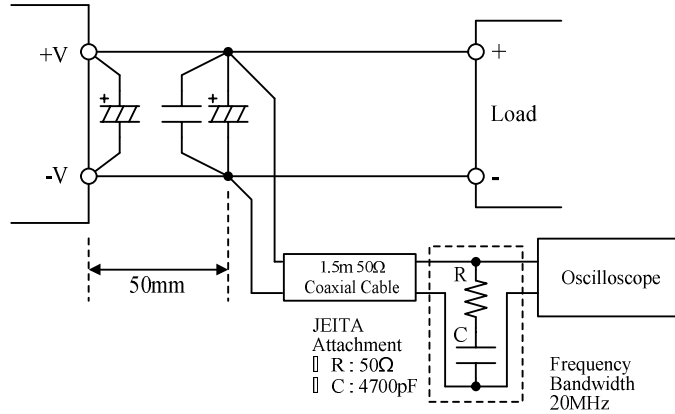

Fig.6-9 Output Noise or Ripple (including Spike Noise) Measurement Method
The output noise measurement connection can be found in the basic connection diagram shown in Fig. 5-1, and the simplified connection diagram shown in Figure 6-9 below.
A 0.1 μ F ceramic capacitor, C13, and four (4) 10 μ F ceramic capacitors, C14, are connected across the PFH module output bus located 50mm away from the module output terminals. Connect a 50 Ω coaxial cable with JEITA attachment across the ceramic capacitors electrodes (see Figure 6-9) to measure the output noise. Use 20MHz bandwidth digital oscilloscope setting to measure peak-peak and RMS values.